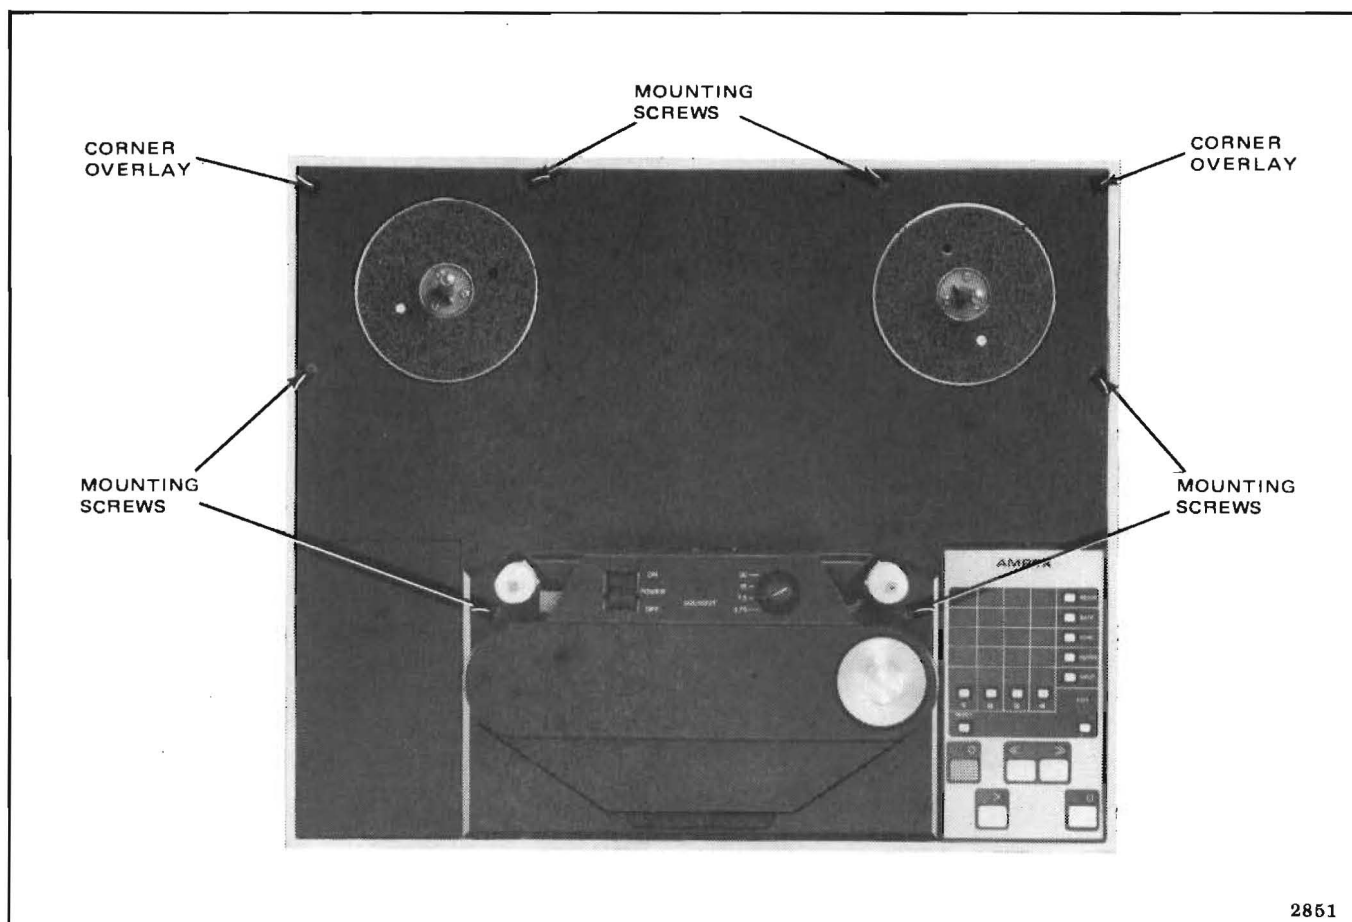

Figure 2-2. Rear Overlay Panel, Six Mounting Screws
1. At the top of the transport, remove the rear overlay panel (six screws) shown in Figure 2-2.
11. Reverse the position of each corner overlay attached to the rear overlay panel (Figure 2-2) as follows: